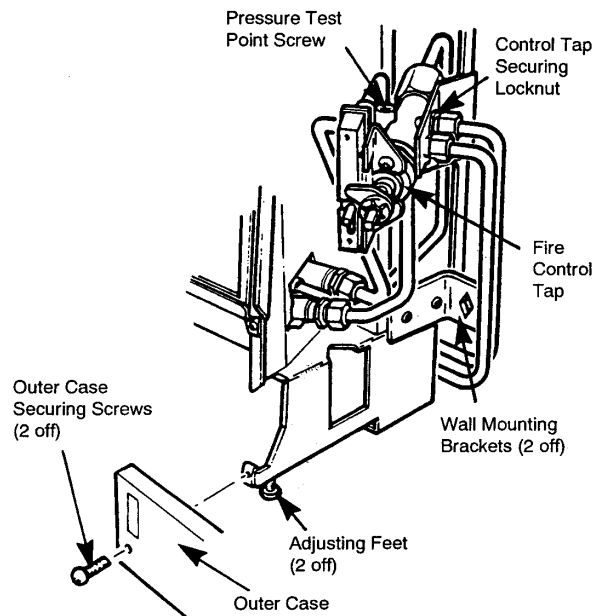

Fig. 7 Commission the Fire
- (c) Adjust the feet to level the fire (Fig.7). Check that the fire is sufficiently stable.
- (a) Fit the two wall mounting brackets using the four No. 8 x 3/8 in self tapping screws provided (Fig. 7).
Check the gas pressure (Figs 7 and 11)
- (c) Secure the outer case to the inner case using the two screws provided then locate the cover panel in the spring clips (Fig. 7).
- (c) Remove the two case securing screws (Fig.7).